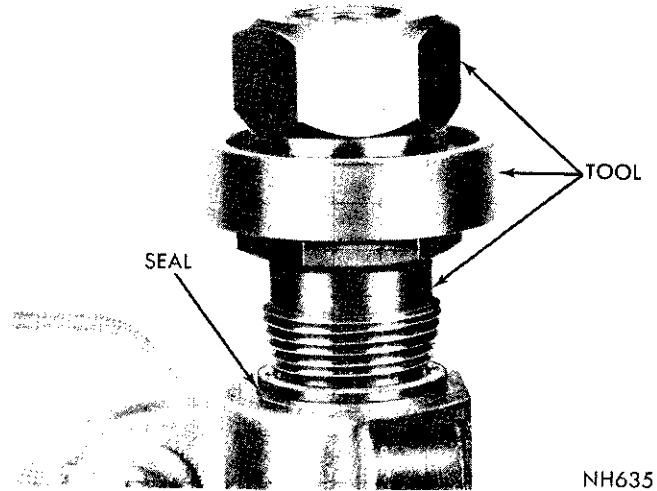

Fig. 5—Removing Gear Shaft Oil Seal
- (3) Slide threaded adapter SP-3056 of Tool C-3350-A over end of cross shaft and thread tool nut on cross shaft. Maintain pressure on threaded adapter with tool nut while screwing adapter far enough to engage metal portion of grease retainer. Place the two half rings SP-1932, and Tool retainer ring over both portions of the Tool (Fig. 5). Turn the tool nut counter-clockwise to withdraw grease retainer from housing.
- (4) Remove oil seal snap ring with snap ring pliers and remove seal back-up washer.